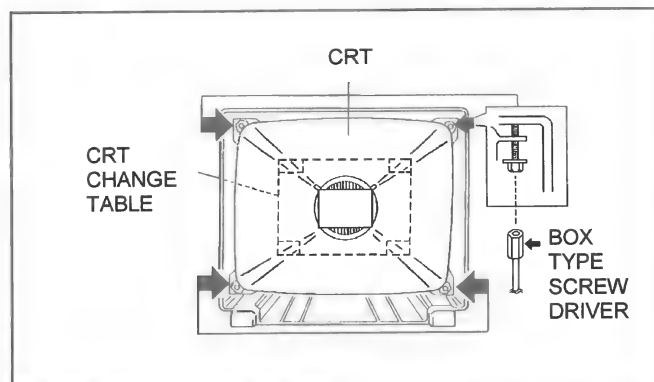

Fig. 4
- 2. While keeping the surface of CRT down, mount the TV set on the CRT change table balanced well as shown in Fig.4.